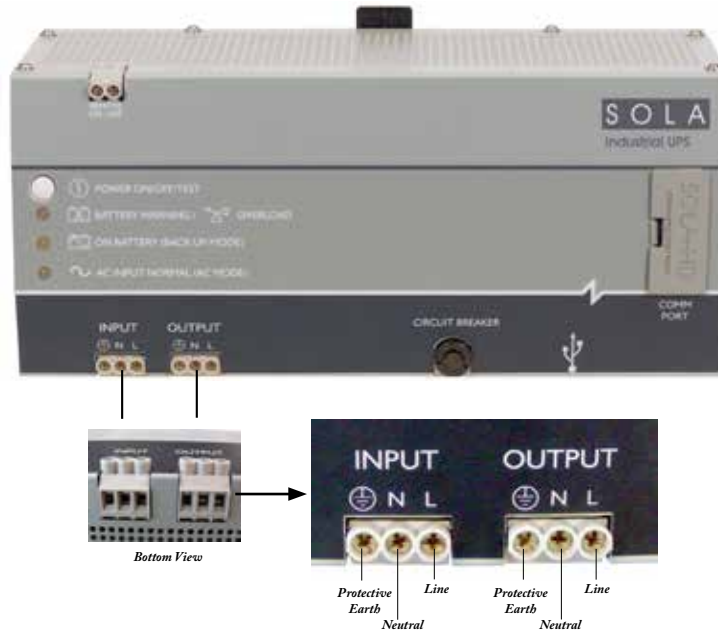

Figure 2: Input/Output Terminals
4. **I/O Wiring:** Make sure the UPS and the AC Supply is OFF (disconnected) before installation. Wire the UPS terminals with 90 °C rated copper wire according to the table below. Connect the AC input ground terminal to the main supply ground. Connect line in neutral supply conductors. Connect the loads to the output hardwire connector. Verify proper wiring connections then apply power to the UPS. Reference **Figure 2**.